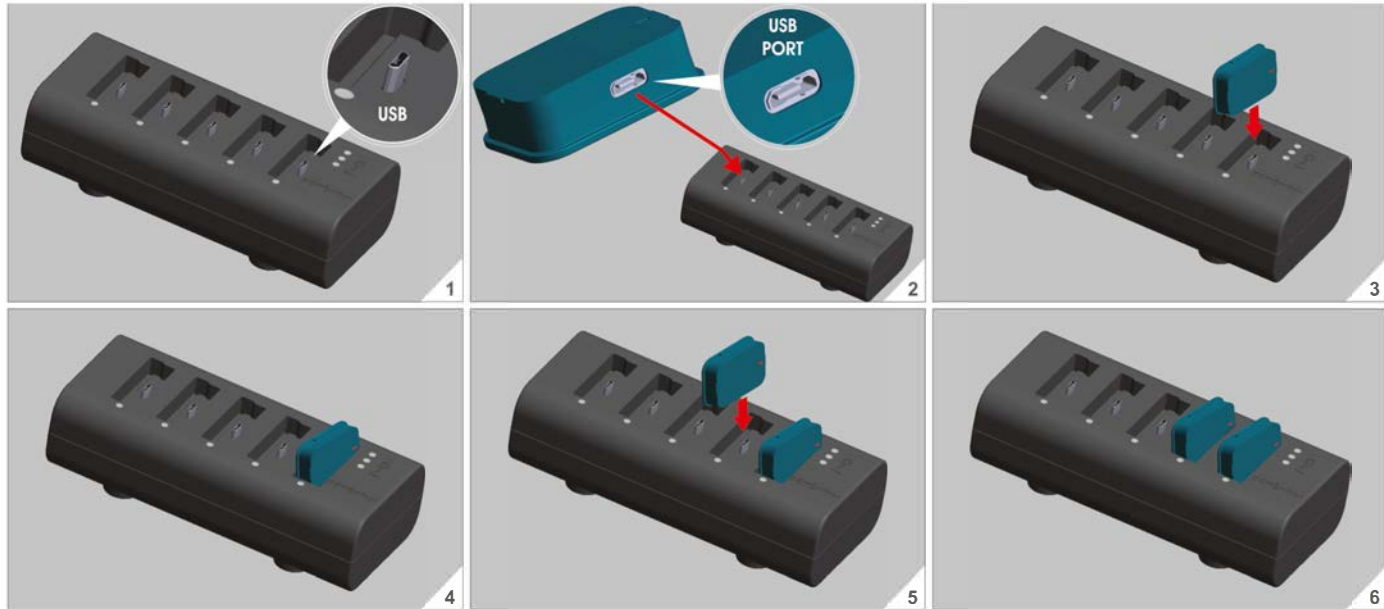

Figure 19. Placing Monitoring Devices into the slots of the SmartBox
- Place the Monitoring Devices into the slots of the SmartBox, as shown in Figure 19